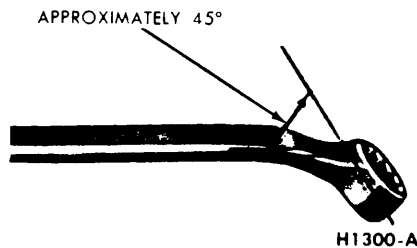

FIG. 8—Wrench for Bleeding Brake Hydraulic System
4. If the rear wheel cylinders and the secondary brake system is to be bled, position a 3/8 inch box wrench (Fig. 8) on the bleeder fitting on the right rear brake wheel cylinder. Attach a bleeder tube to the bleeder fitting. The end of the tube should fit snugly around the bleeder fitting.